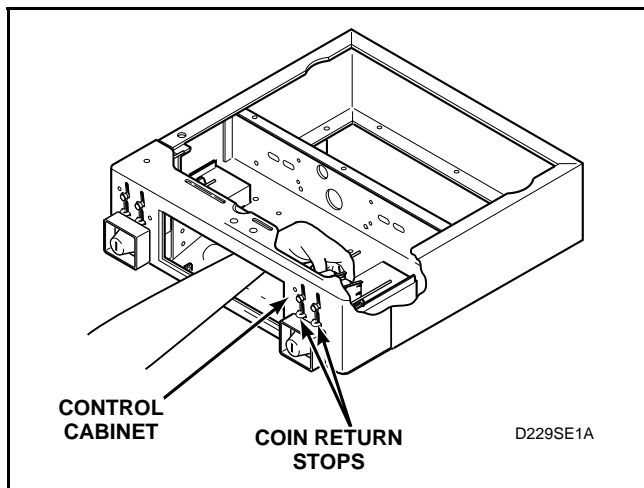

Figure 28
- (4.) Carefully slide coin drop forward into position, as shown in *Figure 28*. (Front face plate of coin drop should be secure against control cabinet, with coin return stop completely through slot.)